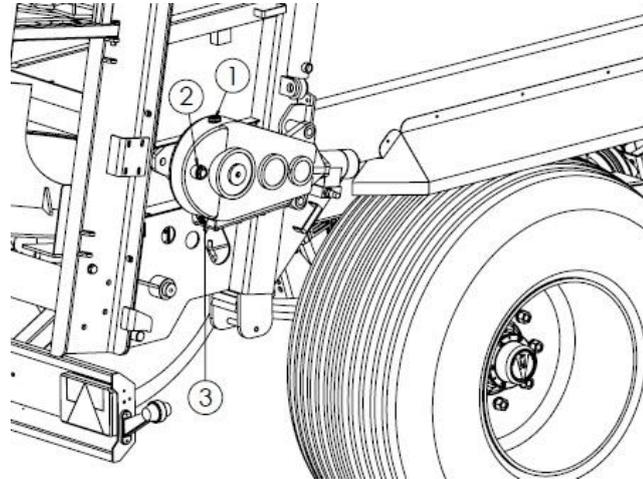

Figure 30. Oil level control points in the floor conveyor's transmission:
To drain the oil from the gear unit (Fig. 30, 31, 32), unscrew the drain plugs (3). Fill the gearboxes with new oil via the oil filler (1) until oil becomes visible in a sight glass (2). The correct oil level is reached when the oil is visible in the middle of the sight glass.